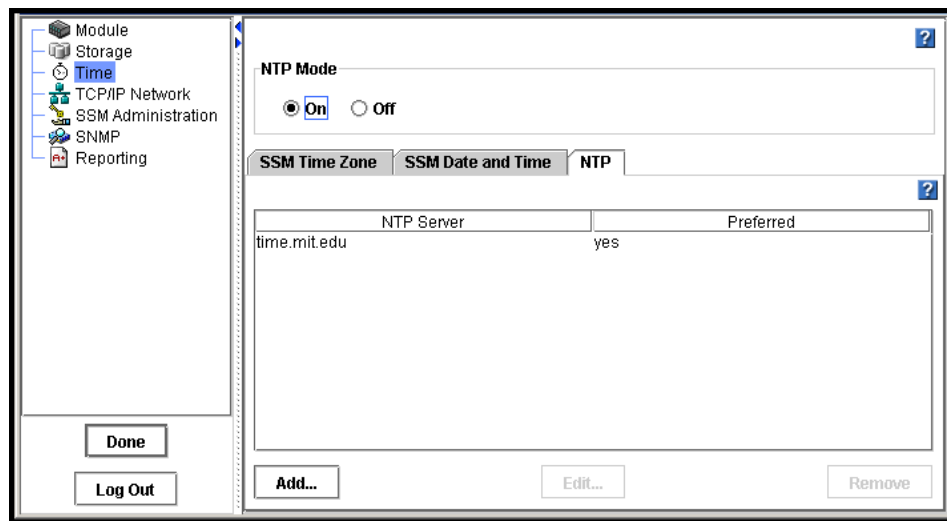

Figure 94. Viewing the List of NTP Servers
- Click OK. The NTP server is added to the list on the NTP tab, shown in Figure 94.